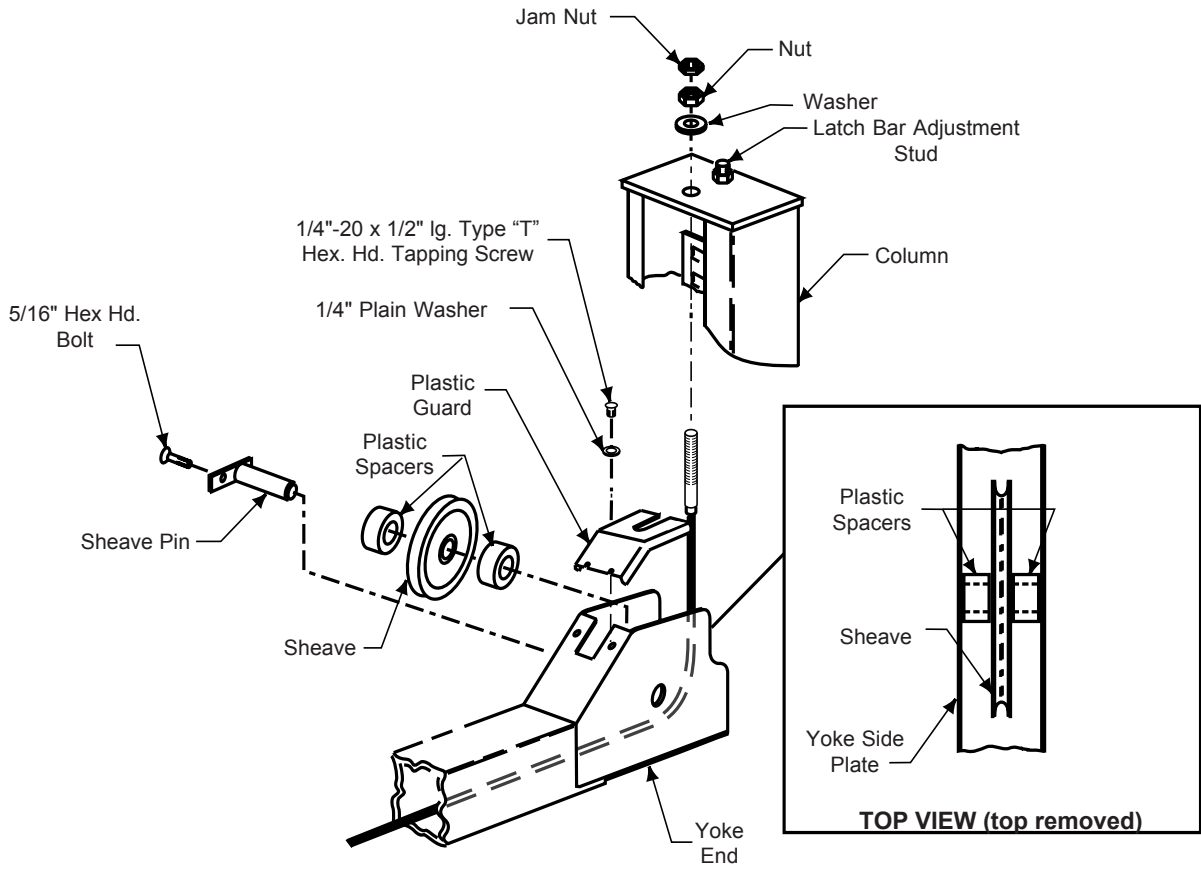

Fig. 8
- F. Install yoke end sheaves and plastic spacers, Fig. 8. A plastic spacer is placed on each side of the sheave, inset Fig. 8.
- G. Retain with sheave pin and 5/16" hex head machine bolt. Attach each cable to column top plate with spacer, nut, and jam nut, Fig. 8. Install rubber sheave guard on each yoke end, Fig. 8. Roping diagram shows a view of completed roping, Fig. 9.
Adjust cable with lift fully lowered. Loosen jam nut and tighten nut on cable stud on top of column until yoke end raises 1/4". Back off nut one turn. Retighten jam nut. Repeat for all four cables. Refer to Fig. 8.